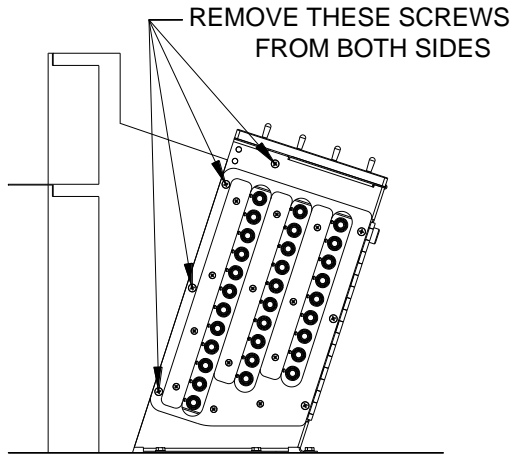
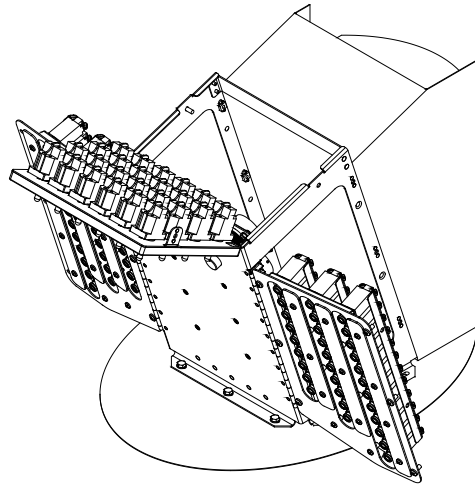

FIGURE 3
FIGURE 4
- 3.4. Remove the three forward #8 screws on each Circuit Breaker (CB) panel. Remove one #8 screw on each side of the console securing the Switch Plate Assembly (see Figure 3). Each should now hinge open (see Figure 4).